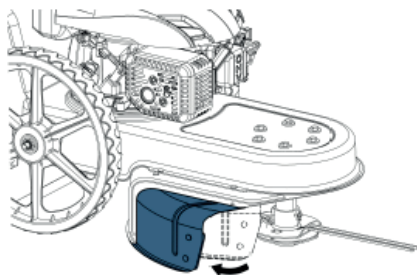

Figure 3-4
1. Swing the trimmer shield into position. (See Fig. 3-4)